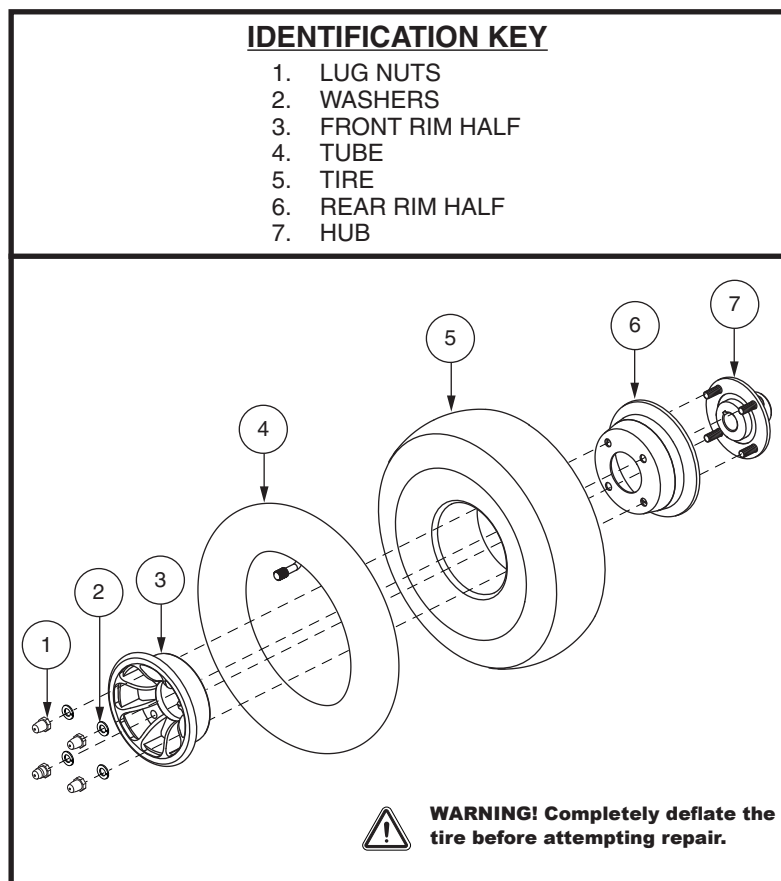

Figure 26. Pneumatic Drive Wheel Disassembly/Assembly
6. Remove the lug nuts and washers and separate the rim halves. **See figure 26.**
7. Remove the old tube from the pneumatic tire and replace it with a new tube. **See figure 26.**